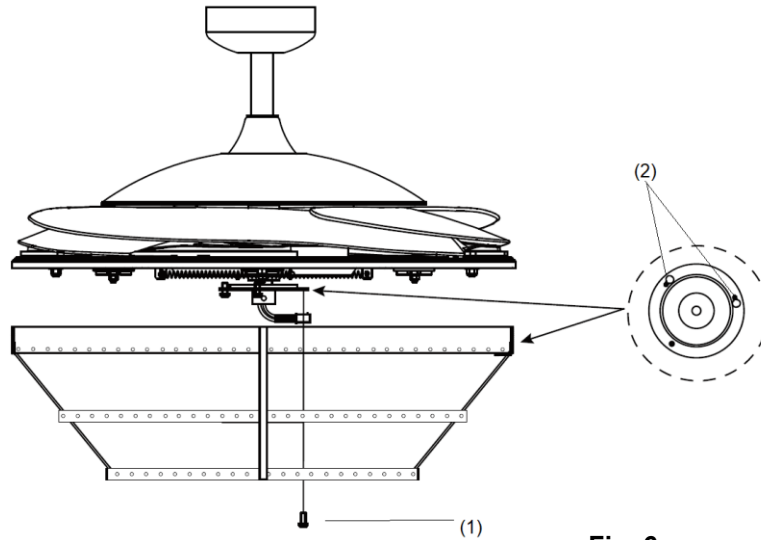

Fig. 6
LIGHT KIT INSTALLATION (Fig. 6 & 7)
1. Loosen the screw (1) from the fan bracket. Align the two slot screws with the keyhole slots (2) of the light kit bracket. (Fig. 6)
2. Turn the light kit counterclockwise until the slot screws are firmly at the end of the slots (2).
3. Secure screw (1) to the lamp shade bracket. Tighten all three screws. Do not over-tighten.